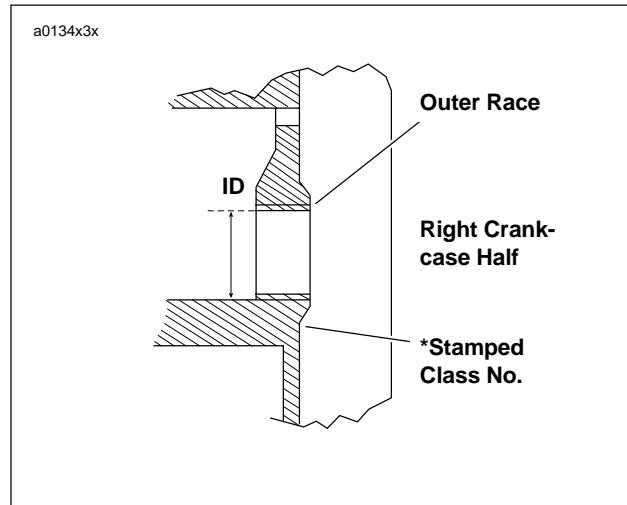

**Figure 3-118. Factory Inner Race Paint Dot Location**
14. See Figure 3-118. Installed inner races are identified at the factory as shown.